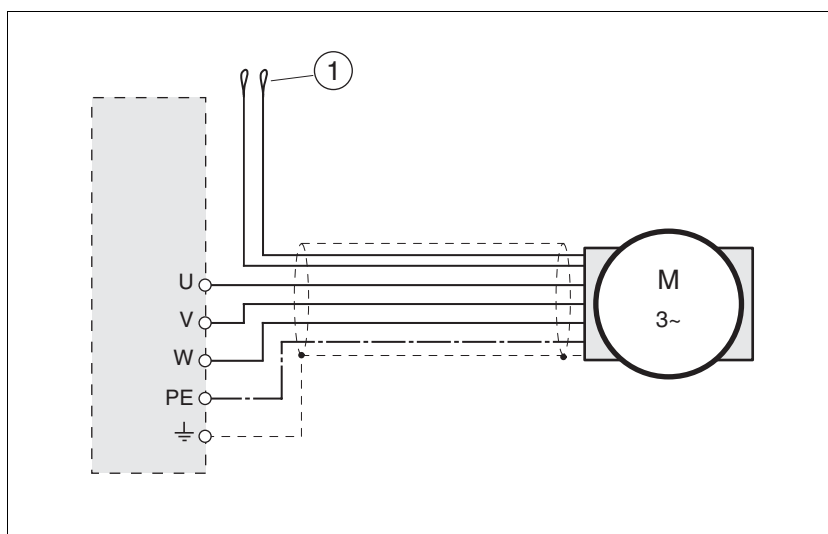

Figure 6.11 Motor wiring diagram, here without holding brake
- ▶ Isolate unused wires at both ends and individually, see Figure 6.11, item 1.